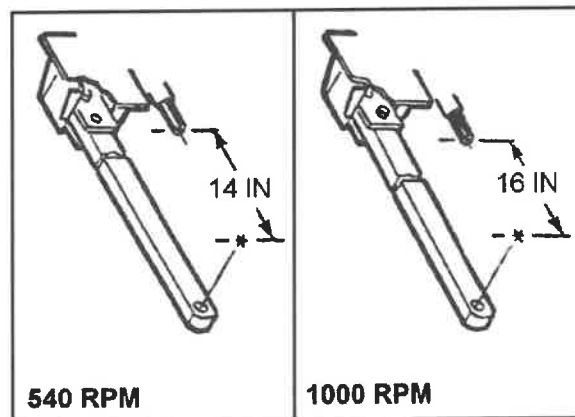

Fig. 4-4 Drawbar
2. Drawbar Dimensions: (Fig. 4-4)